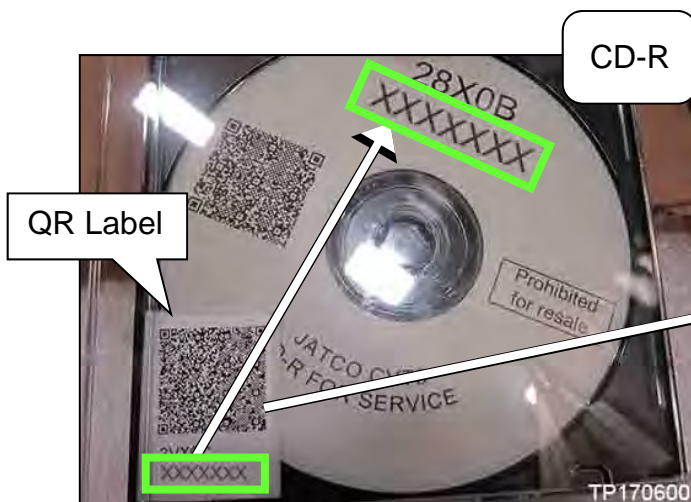
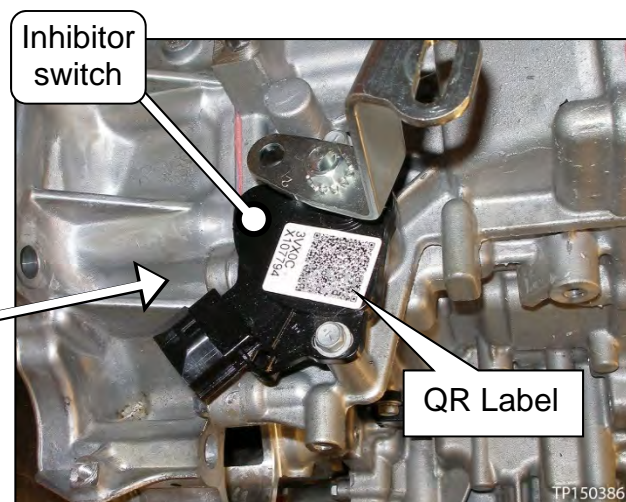

Figure 188
Figure 189
157. Attach the QR label (Figure 188) with the new calibration data onto the transmission range switch (inhibitor switch Figure 189).
- Confirm that the QR label and the CD-R part numbers are the same (Figure 188).